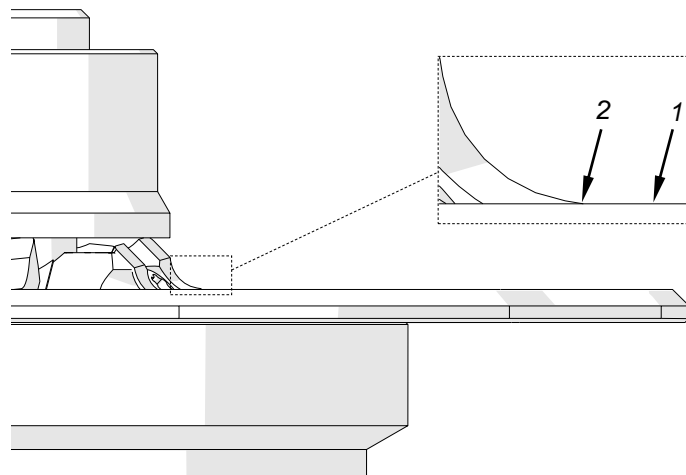

Fig. 5. Guide adjusted for bevelling with radius
Unplug the machine from the power source, and then in the manner described before loosen the clamping screw and rotate the sleeve to set the surface (1, Fig. 5) on the same level as the radial cutting edge (2). You can also use an optional radius insert positioner to set the guide properly. Next, re-tighten the clamping screw, and then bevel a test edge and readjust the position of the guide if necessary.